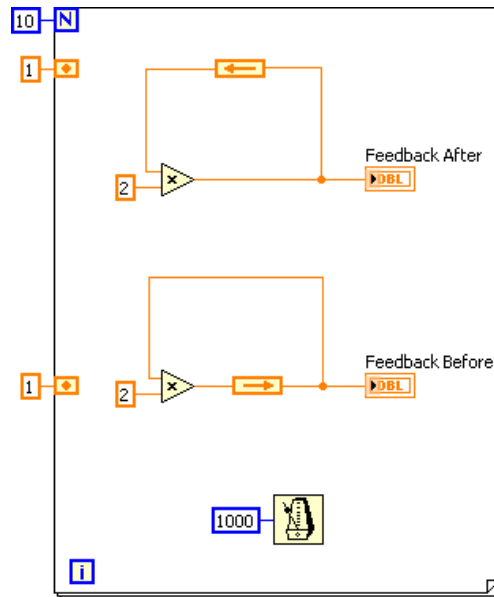

Figure 4.16
1. Display the block diagram (Figure 4.16) and make sure both the front panel and block diagram are visible. If necessary, close or move the Tools and Functions palettes.